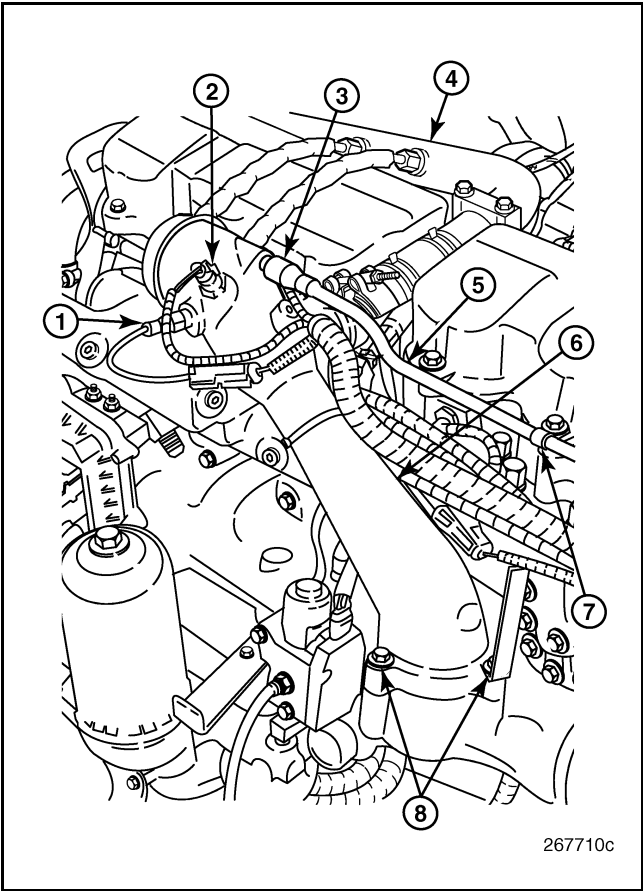

Figure 141 — EGR Gas Mixer Tube, Installed
- 3. Remove the capscrews attaching the mixer tube to the inlet manifold (Figure 141) and remove the tube.